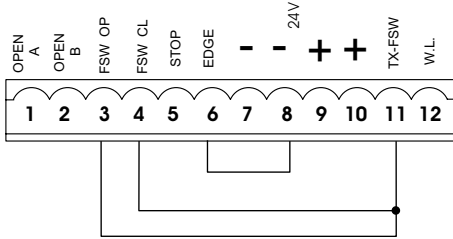

Fig. 33
N.B. If safety devices are not used, jumper connect the terminals as shown in fig. 33.
NB.: If no opening safety devices are connected, jumper connect inputs OP and -TX FSW (fig. 33).
NB.: If no closing safety devices are connected, jumper connect terminals CL and -TX FSW (fig. 33).
NB.: If edge safety devices are not connected, jumper connect the EDGE and - inputs. (fig. 33).